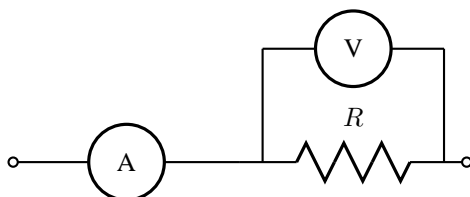

Figure 3: Electric Circuit with Resistor.
3. Remove the diode from the circuit and insert the resistor, as shown in Fig. 3. Obtain five different voltage and current readings for the resistor. The voltage readings should range between 0 and 8 volts. The voltmeter should be set to the 20 volt scale, and the ammeter should be set to the 200 milliamp scale (or the 2 milliamp scale, as appropriate). Record your data in Table 1.